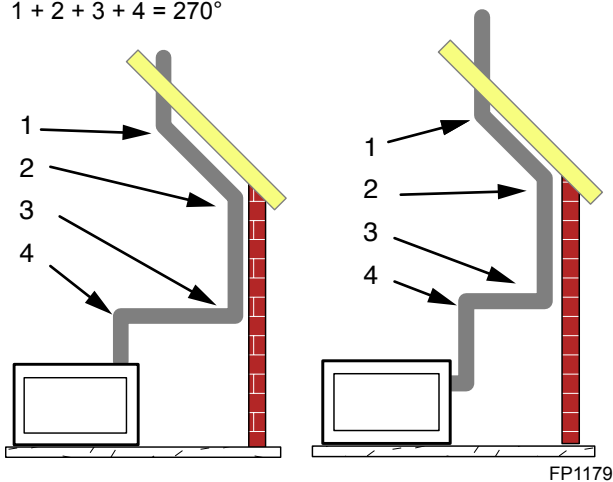

Figure 40 - Maximum Elbow Usage
- Two sets of 45° elbow offsets may be used within the vertical sections. From 0 to a maximum of 8' (2.5 m) of vent pipe can be used between elbows. *Figure 40*
- The maximum angular variation allowed in the system is 270°. *Figure 40*